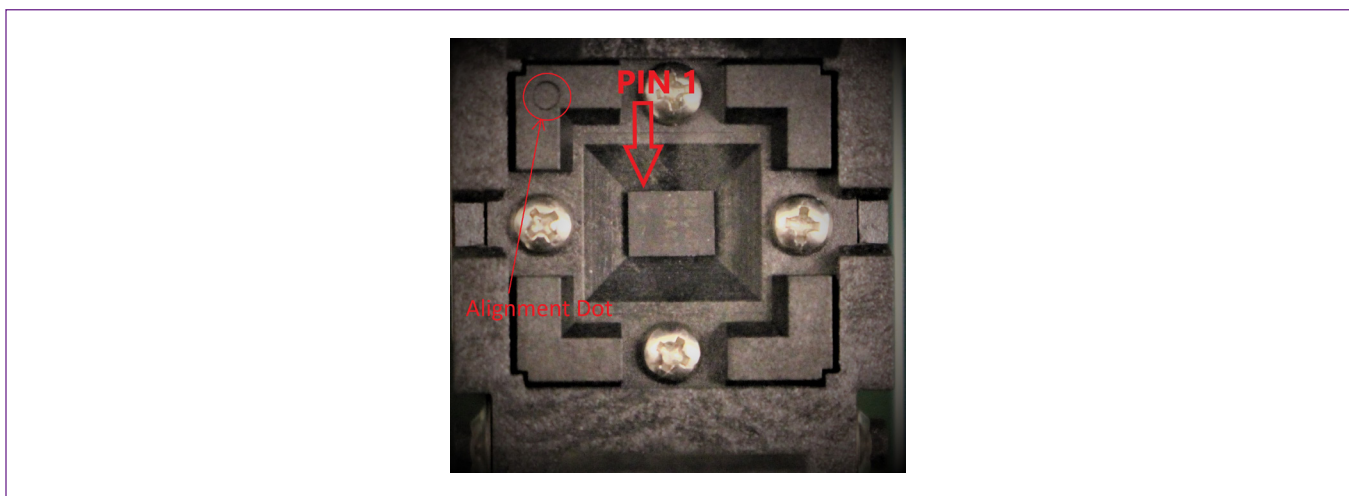

Figure 9. Orientation of the DS28C40 in the Clamshell Socket
- a) Open the socket and insert a DS28C40 into one of the cavities, as shown in Figure 9. **Note:** The plus (+) on the package must be on aligned with the top of the marker in the socket.